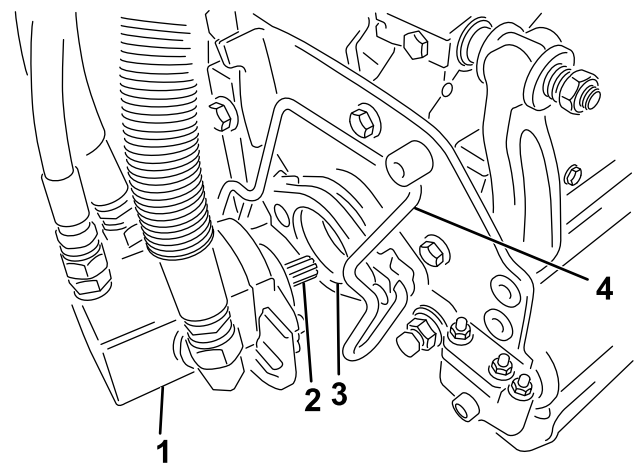

Figure 55
5. Coat the spline shaft of the cutting unit motor with clean grease (Figure 55).
6. Insert the motor into the left side of the cutting unit (as viewed from the operator's position) and pull the motor retaining bar on the cutting unit toward the motor until you hear a click from both sides of the motor (Figure 55).